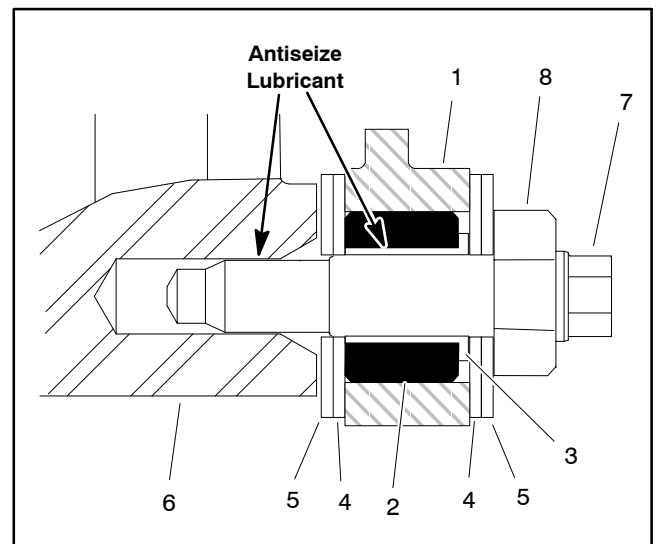

Figure 18
1. If rubber bushing was removed from either cutting unit side plate, apply grease to outside surface of new bushing and install into side plate. The bushing should be installed flush with the inside of the side plate (Fig. 18).
2. If removed, install the nylon bushings (item 15) with flange facing outward. Apply antiseize lubricant to inside of flange bushing.
3. Apply antiseize lubricant to the bedbar threads and the shoulder area of each bedbar pivot bolt (Fig. 18).
**IMPORTANT: When installing washers (items 16 and 17), make sure that plastic washers are positioned on either side of the cutting unit sideplate (Fig. 18).**
4. Slide one (1) metal washer (item 17) and then one (1) plastic washer (item 16) onto each bedbar pivot bolt.
5. Position bedbar into cutting unit. Make sure that the top of each bedbar arm is between washer (item 11) and adjuster screw flange (item 4).
6. Position one (1) metal washer (item 17) and one (1) plastic washer (item 16) between bedbar and each cutting unit side plate (Fig. 18).
8. Tighten both lock nuts (item 10) until outside washers do not have any endplay but still can be rotated. Do not over tighten the lock nuts as this can distort the side plates and affect reel bearing adjustment. When the lock nut is correctly tightened, there may be a gap at the inside washers.
9. Tighten the lock nut (item 13) on each bedbar adjuster assembly until the adjuster spring is fully compressed, then loosen lock nut 1/2 turn.